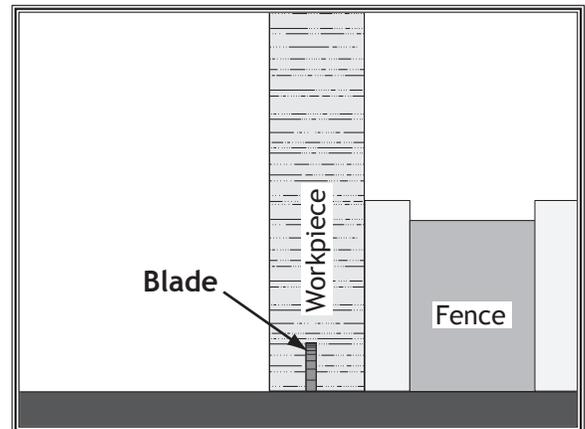

Figure 73. Example of rabbet cutting with a standard blade.
5. Stand workpiece on edge, as shown in **Figure 73**, then adjust fence so blade is aligned with inside of your rabbet channel.